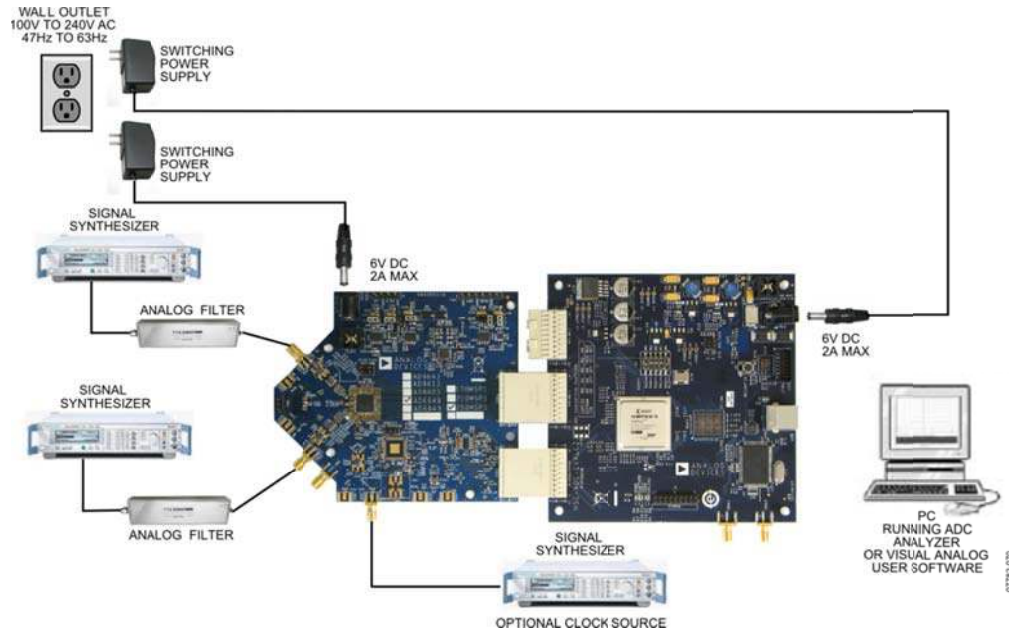

Figure 1: AD6649 Evaluation Board with HSC-ADC\_EVALCZ Data Capture Board
1. Connect the AD6649 evaluation board and the HSC-ADC-EVALCZ board together as shown in Figure 1.
9. Next open the SPI Controller software. If prompted for a configuration file, select the file titled AD6649spiR03.cfg. If not, check the title bar of the window to see which configuration is loaded. If necessary, choose “Cfg Open” from the “File” menu and select the configuration file named above. Note that the CHIP ID(1) field may be filled whether the correct SPI Controller configuration file is loaded or not.
11. Set the DCO Clk Delay Enable checkbox in the FLEXOUTPUT DELAY(17) panel on the ADCBase0 tab as shown below. In addition, set the DCO Clk Delay register to the ‘600ps additional delay on DCO pin’. These settings align the output timing with the input timing on the capture FPGA.